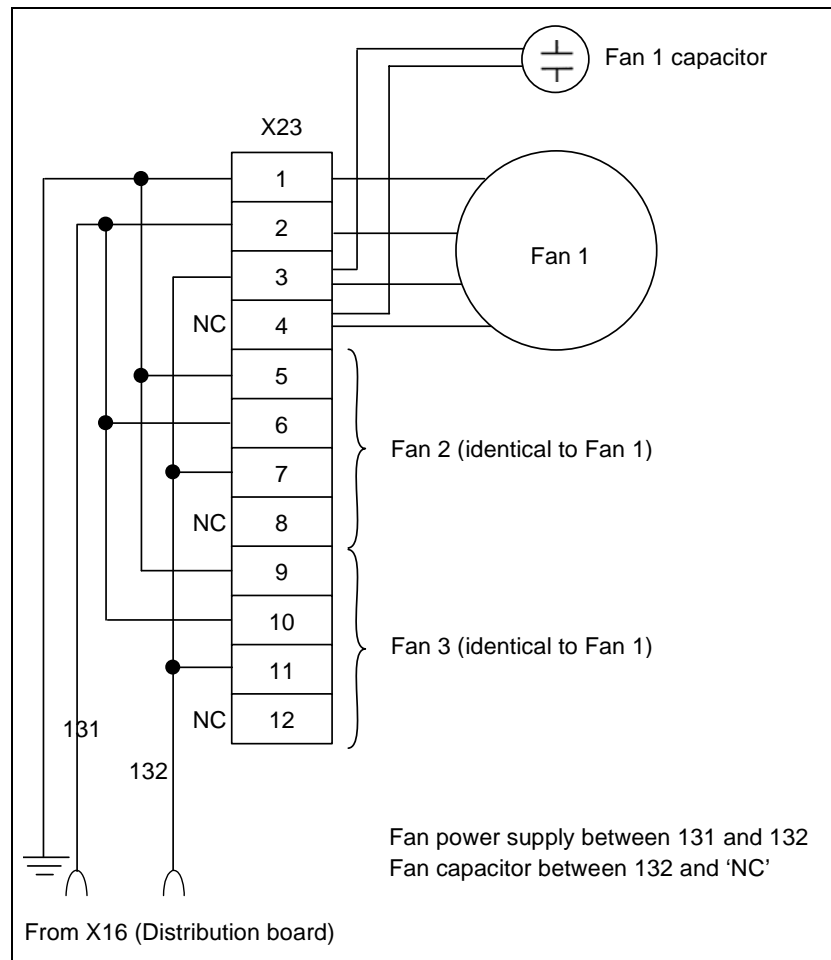
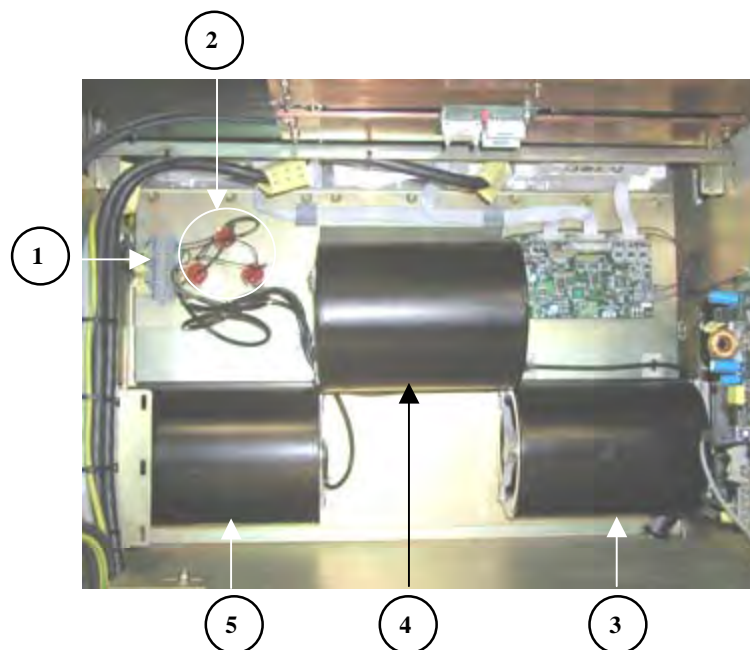

Figure 12.1. X23 pin layout and connection diagram
Figure 12.2. Overview of IGBT cooling fan related items
- Remove the electrical connection of the fans considered by unplugging the relevant wires of the X23 terminal. Figure 12.1. shows the terminal layout and pin assignment. Figure 12.2. can be used to locate the relevant items.
- Remove the fan mechanically by unscrewing its fixation screws which are located at the left and right side of the fans in the aluminum fan outlet. Note that in order to have access to the fixation screws of the middle fan (Figure 12.2. item 4), the outside fans have to be removed first.